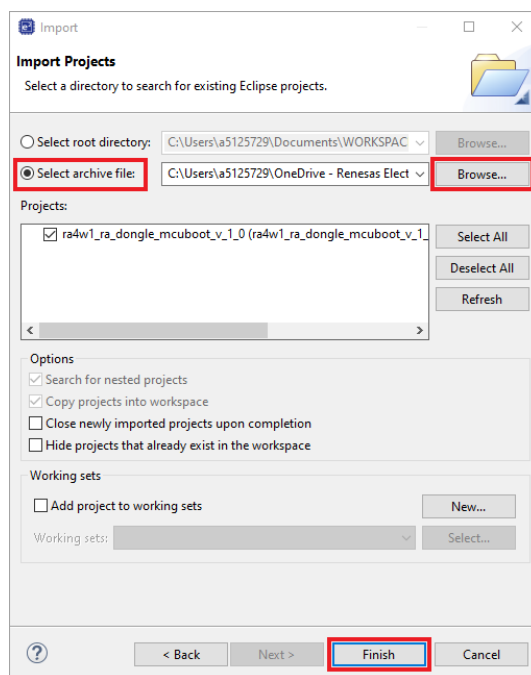

Figure 17. Selection of the Bootloader Project
- On the next window, select **Select archive file** and then click on the **Browse...** button (Figure 17). In File Explorer, navigate to the location of the bootloader project archive file (.zip), select it and then click on the **Open** button. Click on the **Finish** button to complete the import process and close the Import Wizard.